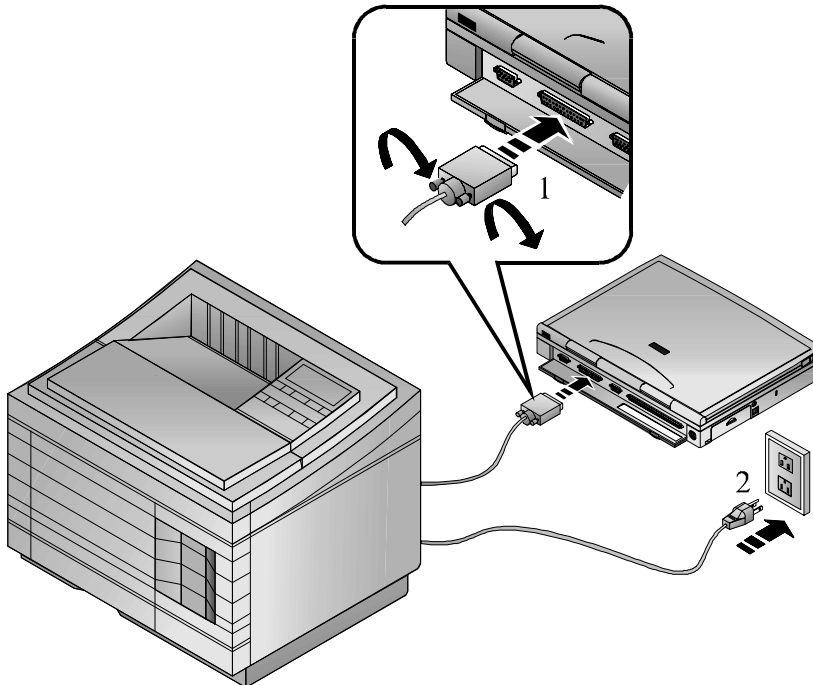

Figure 4-2: Connecting a Printer
1. Connect the printer signal cable to the parallel port on the rear of the notebook. Tighten the thumb screws (Figure 4-2, step 1).
2. Connect the printer's power cord to a wall outlet (Figure 4-2, step 2).